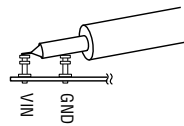

Figure 2. Measuring Input or Output Ripple
**NOTE.** When measuring the input or output voltage ripple, care must be taken to avoid a long ground lead on the oscilloscope probe. Measure the input or output voltage ripple by touching the probe tip directly across the VCC or VOUT and GND terminals. See Figure 2 for proper scope probe technique.